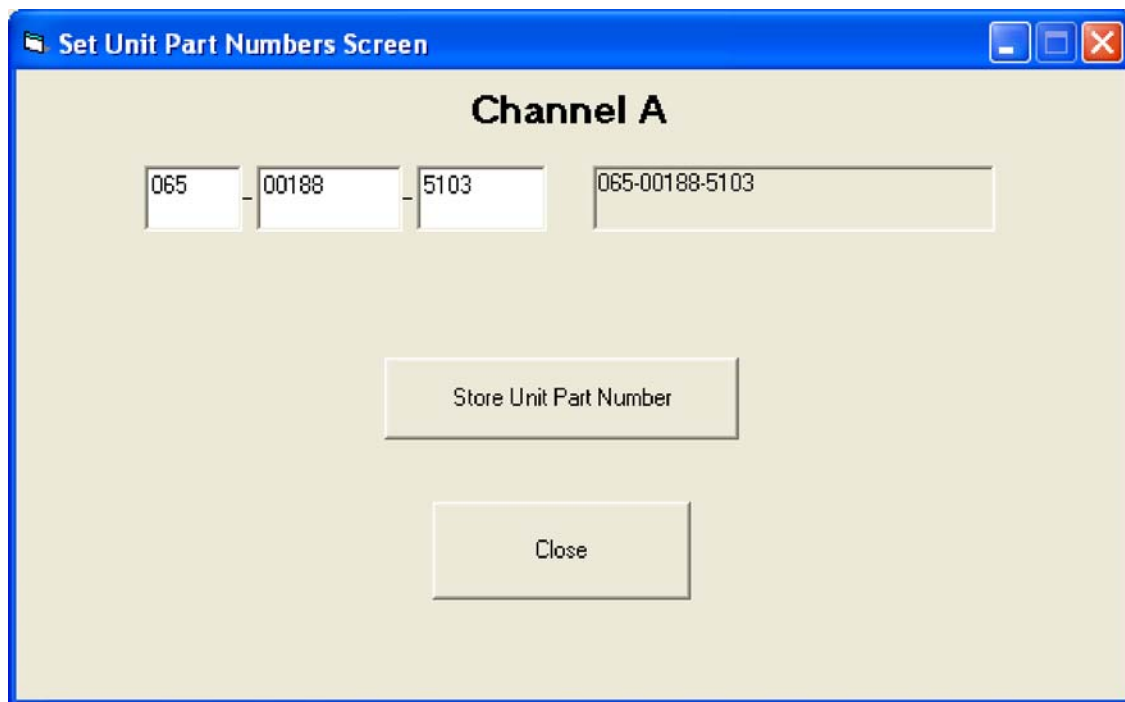

Figure 44. (Sheet 1 of 1) Set Unit Part Numbers Screen (PN 065-00188-5103) Window
(4) Enter PN 065-00188-5103. Refer to Figure 44.